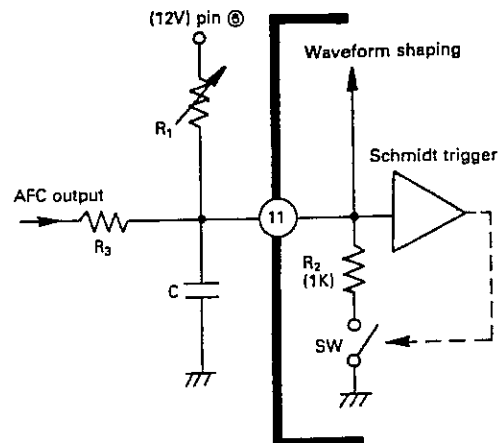
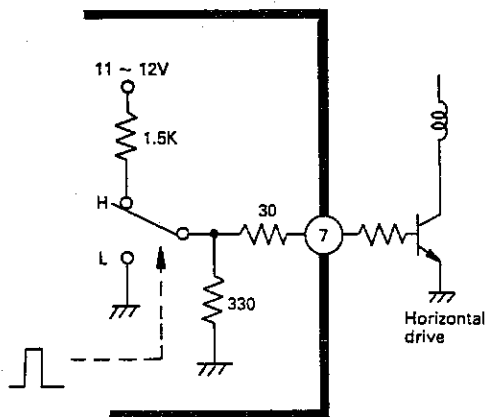

Figure 21-1.
Figure 22.
The horizontal oscillation circuit is composed of a time constant circuit (R_1 and C in connection with pin ⑪), Schmidt trigger circuit and R_2 (see Fig. 21-1).
The oscillation waveform available at pin ⑬ is sliced by the voltage of 7V to produce a horizontal pulse (see Figs. 21-1 and 21-2), which goes out of pin ⑦. The output impedance of pin ⑦ is different depending upon whether the incoming signal is at High or at Low level; the difference is outlined in Fig. 22.